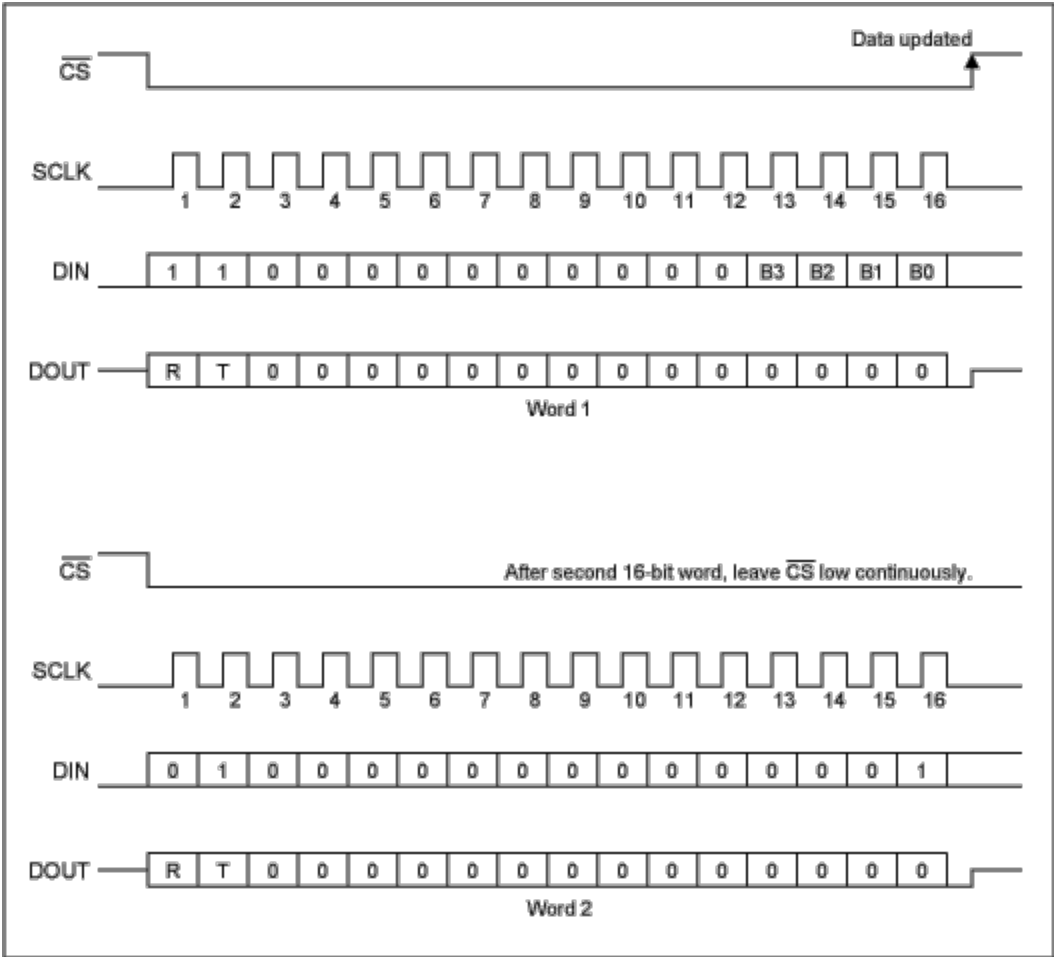

Figure 3. These 16-bit words configure IC2 (Figure 1) in its baudx16 test mode.
Using the SPI interface, you configure IC2's baudx16 test mode with two 16-bit digital words (**Figure 3**), in which bits B3-B30 are set according to a baud-rate selection table (see below). The two words set the baud rate for the baudx16 clock. They can be loaded with a programmable lab-data generator such as the Tektronix DG2020(A) or a low-cost microcontroller like the PIC16F84. The SPI port is used for this operation only once.